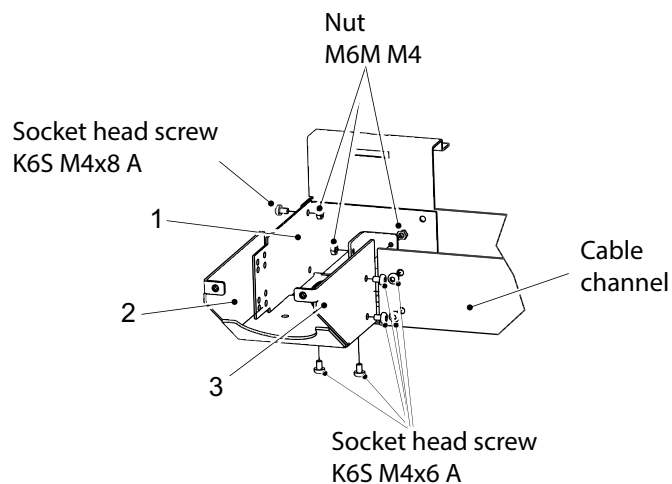

Fig. 4-26 Cable channel bracket, left
3. Mount the channel brackets, the end plates and the supporting angles at the cable channel ends, in accordance with the numbers in **Fig. 4-26**.